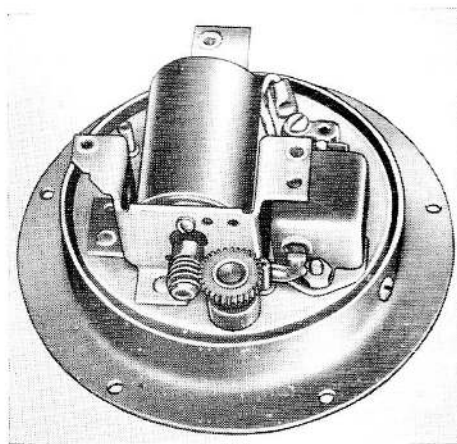

Fig. 2. Underside view with base cover removed
3. The motor is secured to the underside of the mechanism mounting plate by two mounting brackets as shown in fig. 2. The motor shaft carries a steel worm gear which engages with a nylon spur gear on the